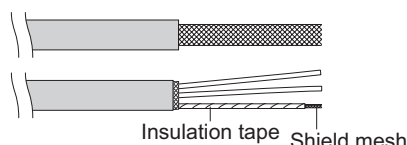

Fig. 1-9
- (1) Remove cable coat not to scratch braided shield. (Fig. 1-9)